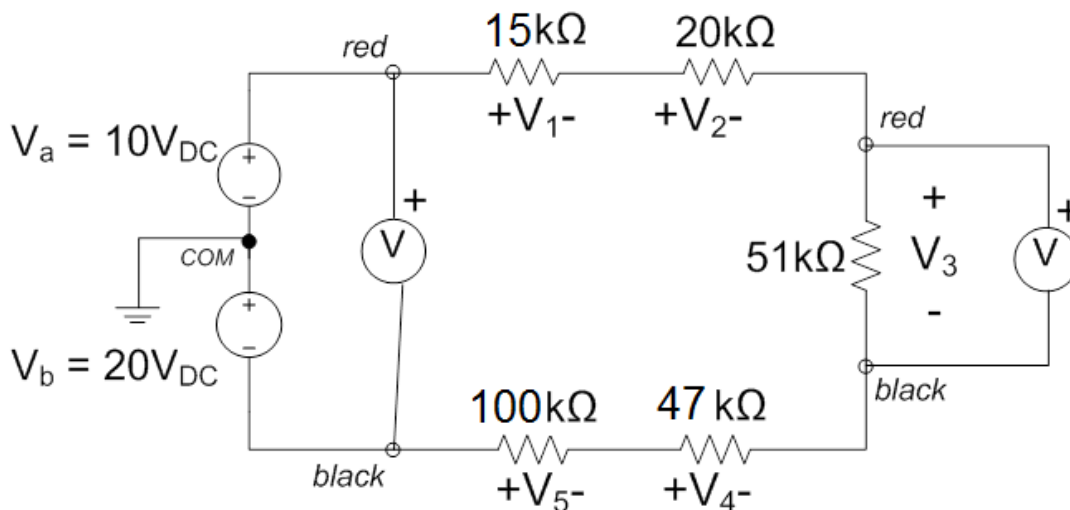

Figure 3-1: Circuit Diagram for Voltage Division
- Copy Figure 3-1 in your lab book.
- Use the measured values of the resistors in your kit and calculate the predicted values of the voltages ($V_1 - V_5$) in Figure 3-1. Summarize the results in a table in your lab book.
- Check your work by building the circuit in Figure 3-1 in NI Multisim. Use the multimeter set to a voltmeter to measure ($V_1 - V_5$). Organize your calculations and simulation results in a table for comparison. You must submit the screenshot of the circuit with the simulated values shown.
2.1.1 Refer to your notes in Lab 1 to set-up the dual power supply as shown in the schematic of Figure 3-1.
2.1.2 Set-up one DMM to measure the voltage across the dual supply (shown at left in Figure 3-1). If you set up the supply correctly you should measure an output of 30 V. Connect this supply to the resistors in series keeping one voltmeter across the supply, while using the other voltmeter to measure and record the voltage across each resistor. In Figure 1, the second DMM is used to measure the voltage across the 51 k Ω resistor.
- Circuit of Figure 3-1 with all components labeled with nominal values